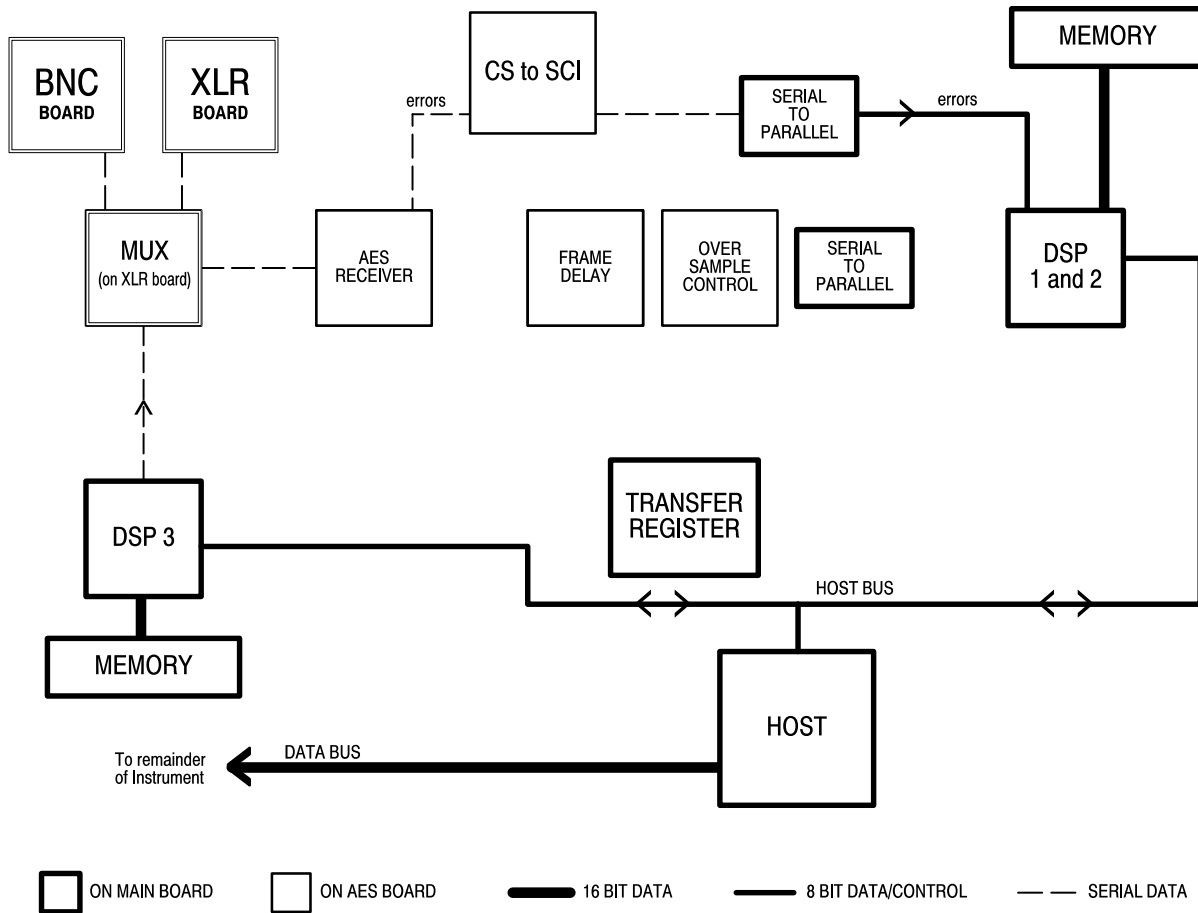

Figure 5-8: The receiver error tests
- Errors tests, DSP1 Rx Err Detect and DSP2 Rx Err Detect, Figure 5-8.